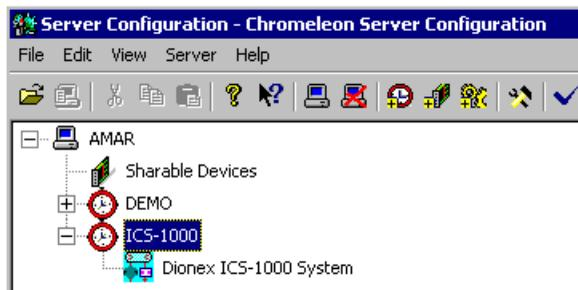

Figure B-14. Example: ICS-1500 Timebase
2. Select the timebase that was created for the ICS-1500 (see Figure B-14); then, click the **Add device** icon  on the toolbar (or select **Edit>Add Device**).